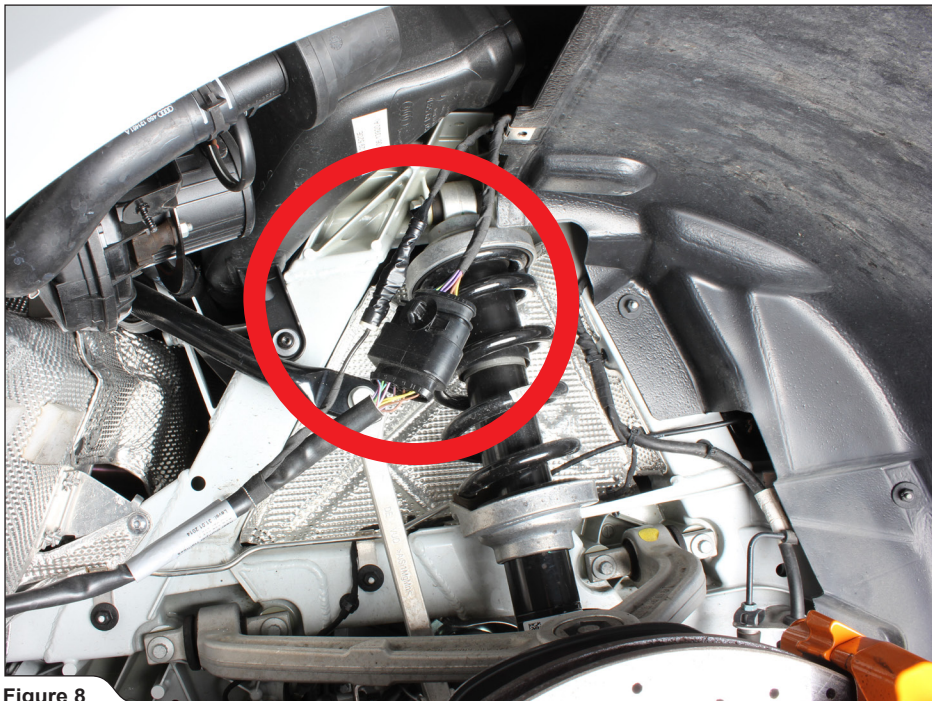

Figure 8
6. Disconnect the marked electrical connectors and carefully remove the bumper off the vehicle (Figure 8, 9).